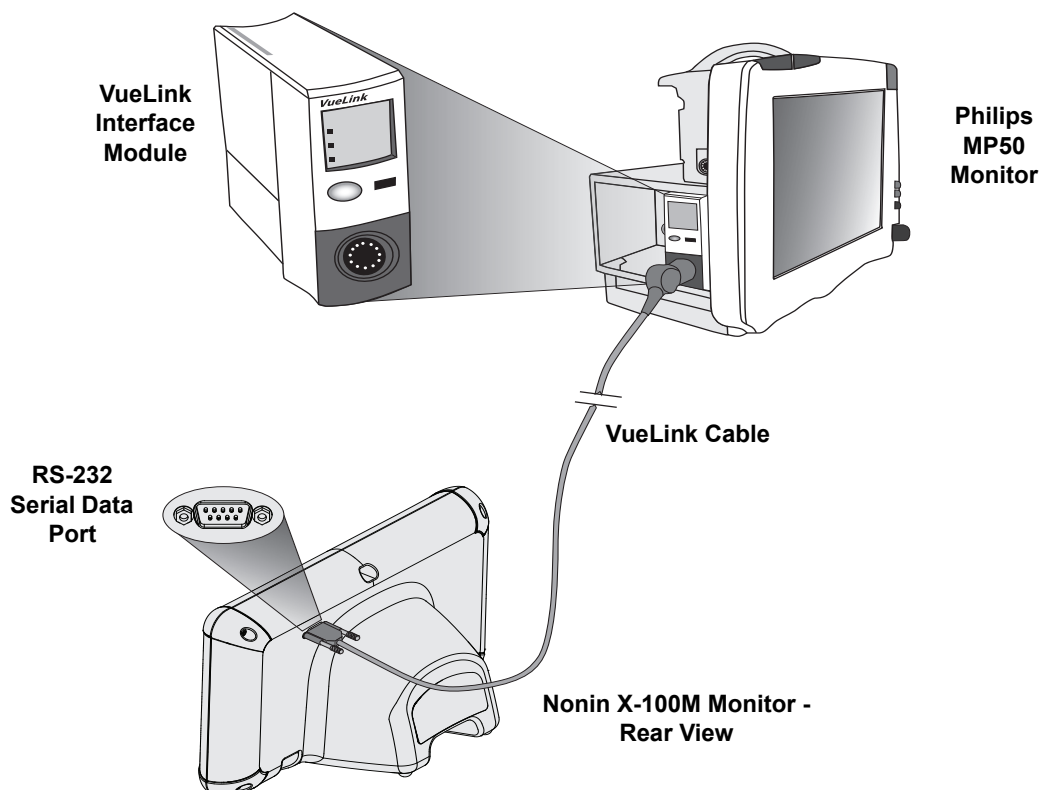

Figure 32. X-100M Connection to Philips Monitor with VueLink
The Model X-100 SenSmart universal oximetry system communicates with the Philips Patient Monitoring System using an Interface Module and a cable (figures 32 and 34). See the appropriate “Setting up the Connection” section for detailed steps.
3. Connect the VueLink connection cable to the VueLink Interface Module (see figure 32).